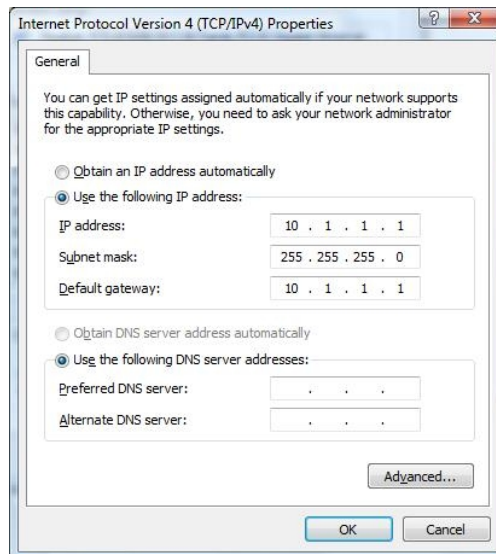

Figure 8. The Internet Protocol (TCP/IP) Properties dialog box.
6. Now the "Internet Protocol Version 4 (TCP/IPv4) Properties" dialog should be displayed. Select "Use the following IP address:". Enter "10.1.1.1" in the IP address box, "255.255.255.0" in the subnet mask box, and "10.1.1.1" in the default gateway box. The dialog should now look like that of Figure 8. Click "OK".